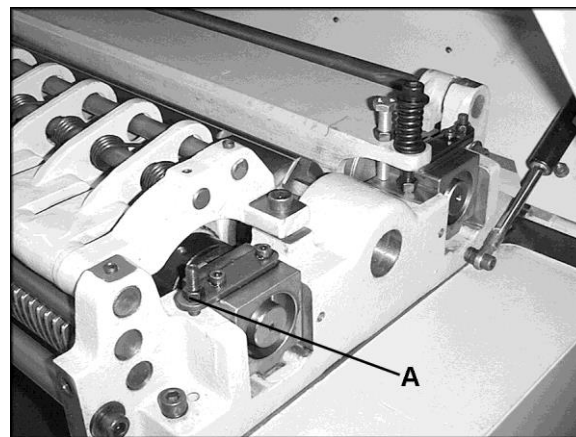

Figure 14
5. If it is not 1.59mm (1/16") below the knife, correct by loosening the hex nut and turning the adjustment screw (A, Figure 14) with a hex wrench.
7. Tighten hex nuts (A, Figure 14) when finished.